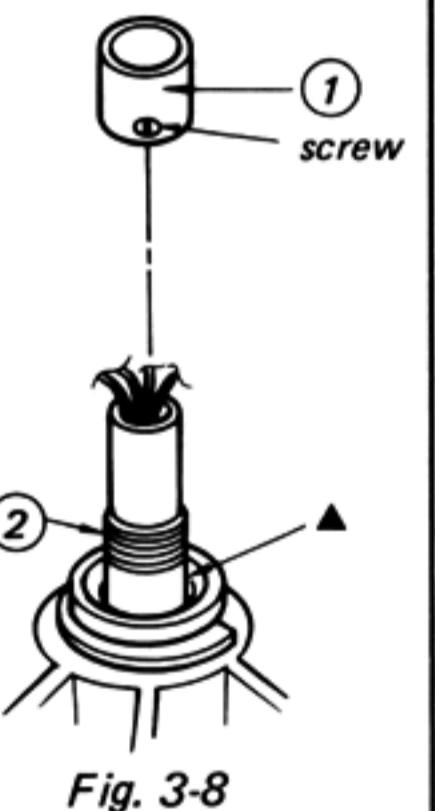

Fig. 3-8
- Clean the portion marked ▲ in Fig. 3-8.
- Put fourteen cleaned steel-balls into the portion marked by ▲ in Fig. 3-8.